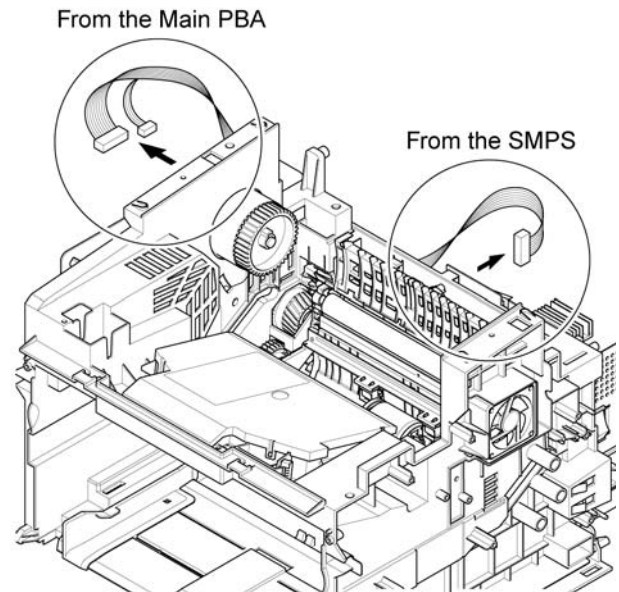

Figure 2
5. Disconnect 3 connectors from the main PBA and SMPS, Figure 2.